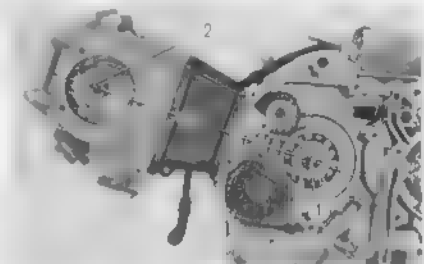

Fig. 3.16 Removing the camshaft
8. Rotate the crankshaft so that woodruff key ① is aligned with the  $3 \times 5.2$  dowel pin hole in the camshaft and then remove the camshaft by unscrewing the two bolts. (Fig. 3.16)